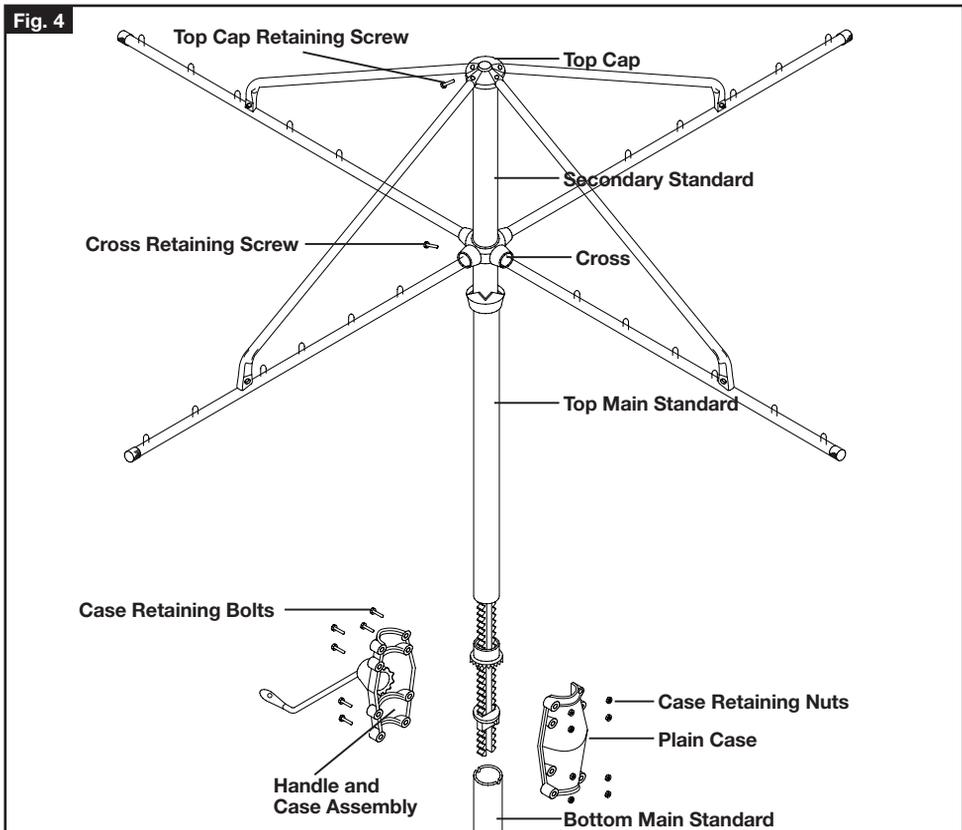

Fig. 5
2. Screw the new Crown Wheel onto the Worm from the hook end. **Fig. 5.**
3. Fit the new Conical washer onto the Worm. Attach the Worm and Crown assembly to the bottom of the Secondary Standard. **Fig. 5.**